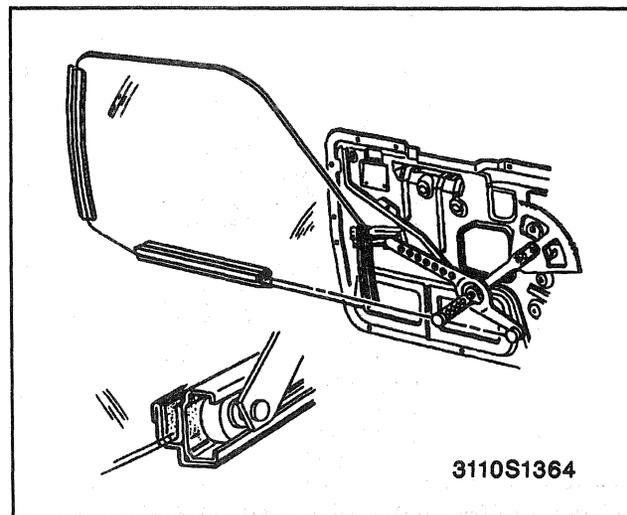

Figure 25—Inner Mounting Panel and Window Sash
5. Lock rods from lock handle, lock lever, and lock rod guides (Figure 25).
7. Inner mounting panel from window sash (Figure 25).
1. Inner mounting panel to window sash (Figure 25).